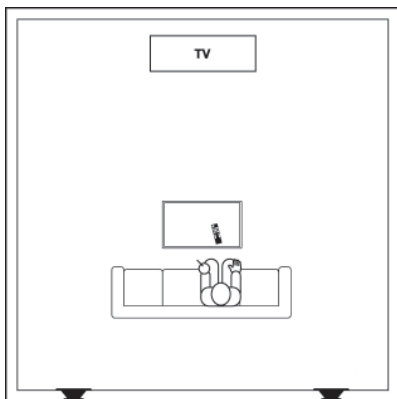

Figure 2. HFX loudspeakers are placed near back corner walls of a home theater room.
- *Place the surround loudspeakers on a rear wall directly behind the listening position. If possible, try placing the loudspeakers nearer to the corners, as shown in **Figure 2** and **3**. Set each BIPOLE/DIPOLE switch to DIPOLE for reflected sound. Moreover, the adjoining walls will act as powerful reflectors to create even more reflections.*